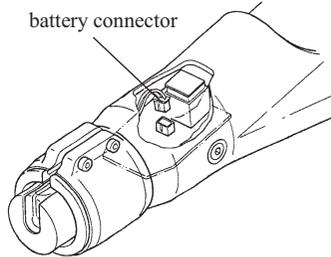

Fig1. Removing the battery connector
- 1) Remove the connector from the circuit board. (Fig1.)